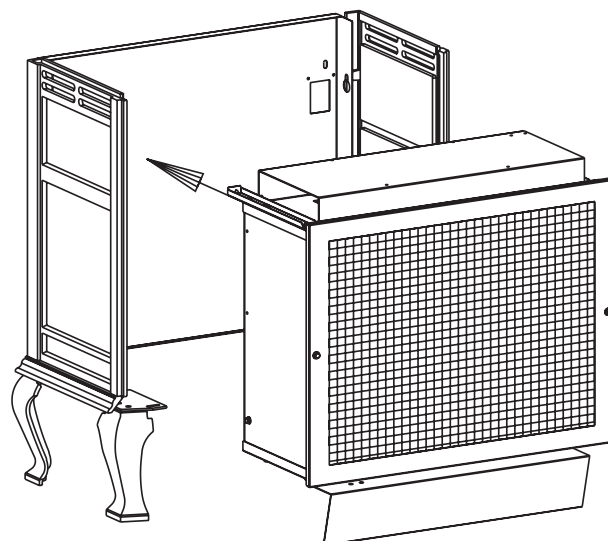
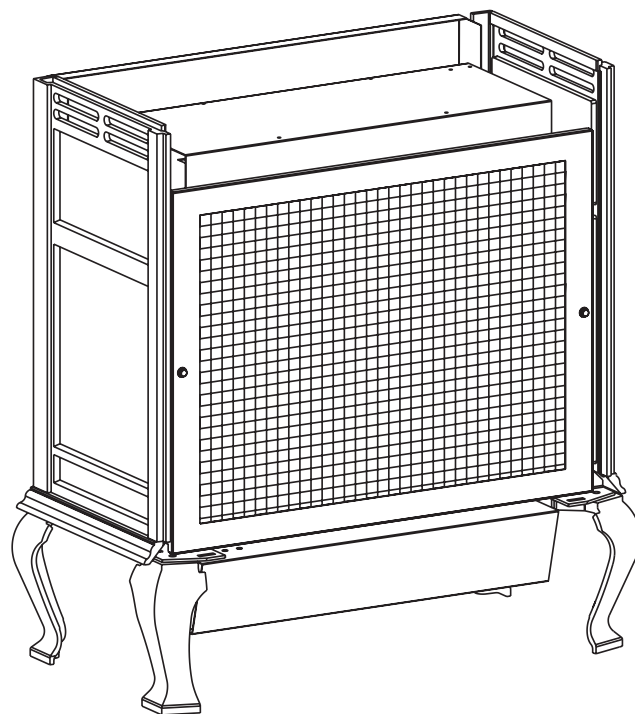

Figure 10
Figure 11
- E. Inserting firebox into partially completed assembly (Figure 10 and Figure 11).
12. The following procedure will provide a snug fit between the casting front and the casting sides. Grasp the right, front leg, push inward on the leg in order to provide a snug fit between the casting front and the casting side. Continue to hold the right, front leg as you completely tighten the (2) 3/8" bolts that attach the leg pad to the right, casting side. Repeat procedure for left, front leg to achieve a snug fit between the casting front and the casting side.
14. Refer to Figures 10 and 11, the appliance firebox can now be inserted into the casting. Center the firebox in the casting. **Attention:** Remove (1) Phillips-head screw in the top of the valve cover. The screw is used to secure the valve cover in place during shipping. The (1) Phillips-head screw can be discarded.